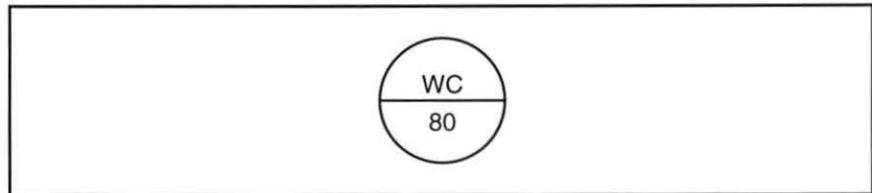

Figure 47. Instrument Tag
5. Determine the measured variable indicated in the instrument tag in figure 47.